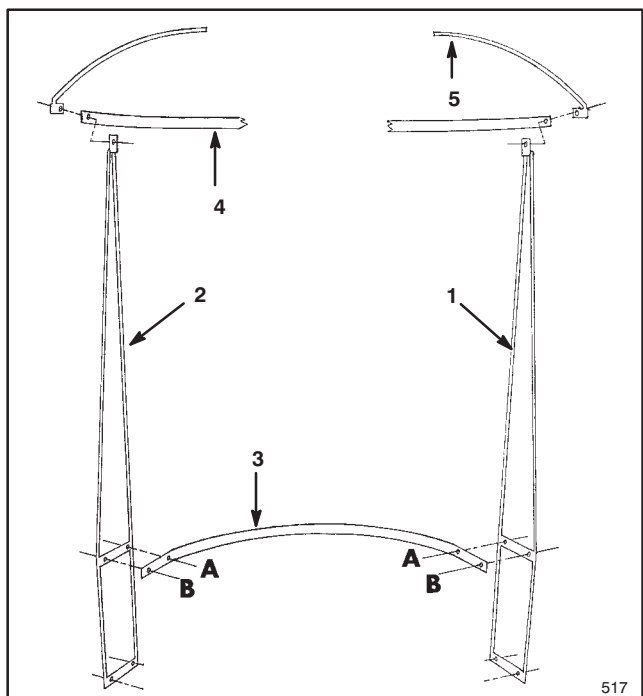

Figure 2
2. Determine the right and left hand frames by making sure the straight frame rods are on the interior of the windshield (Fig. 2). The frame rod with a bend in it should be positioned to the outside of the windshield.
3. Using two $\frac{1}{4}$ " x 1" bolts and two $\frac{1}{4}$ " locknuts, assemble the right and left frames to the bottom bow at REFERENCE "A" as shown in Figure 2. Position locknut on the outside of the frame.
4. Insert two $\frac{1}{4}$ " x $\frac{5}{8}$ " bolts and two $\frac{1}{4}$ " locknuts in the holes at REFERENCE "B" as shown in Figure 2.
6. Insert a $\frac{1}{4}$ " x $\frac{5}{8}$ " bolt outwards through the top of the right and left frame, the top bow and then through the top frame (Fig. 2). Add two $\frac{1}{4}$ " locknuts and tighten securely.